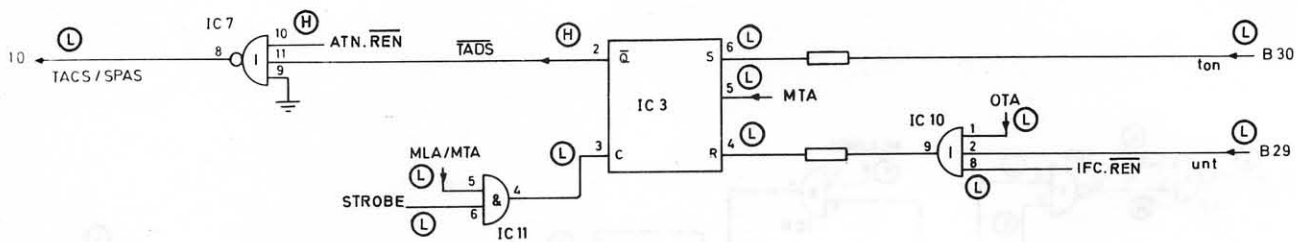

Fig. 12 'Talker addressed latch fault' logic levels
- (1) Place AB6 on extender board and switch on. Switch analyser to TALK and check REN and ATN are at 1. Set DIO lines to MLA and press EXECUTE.
- (2) Set DIO lines to 00111111 (UNL) and press EXECUTE.
- (3) Check logic levels agree with those shown in Fig. 12.